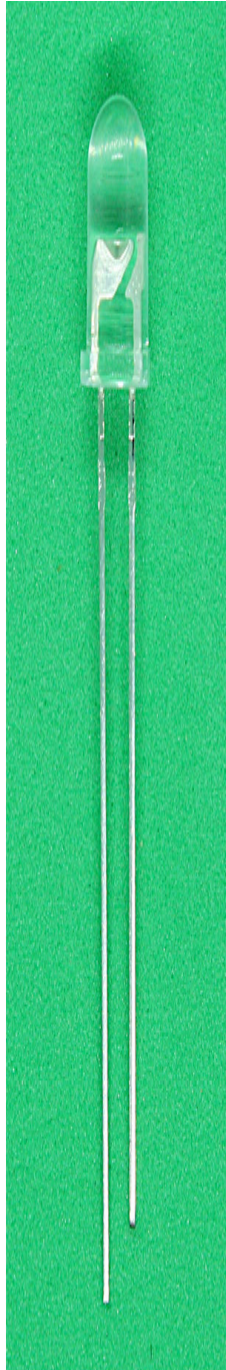

Figure 6.1 – The BL-BJU334V-1 super-bright LED
*Figure 6.1* shows the super-bright LED used in this chapter:
*Figure 6.1* depicts a BL-BJU334V-1 5 mm through-hole LED that emits bright orange light in the 625 nm wavelength. Its left pin is the anode (positive lead), and the right pin is the cathode (negative
2. Connect the resistor to the super-bright LED's anode pin (its longest leg, which is the left one shown in *Figure 6.1*).